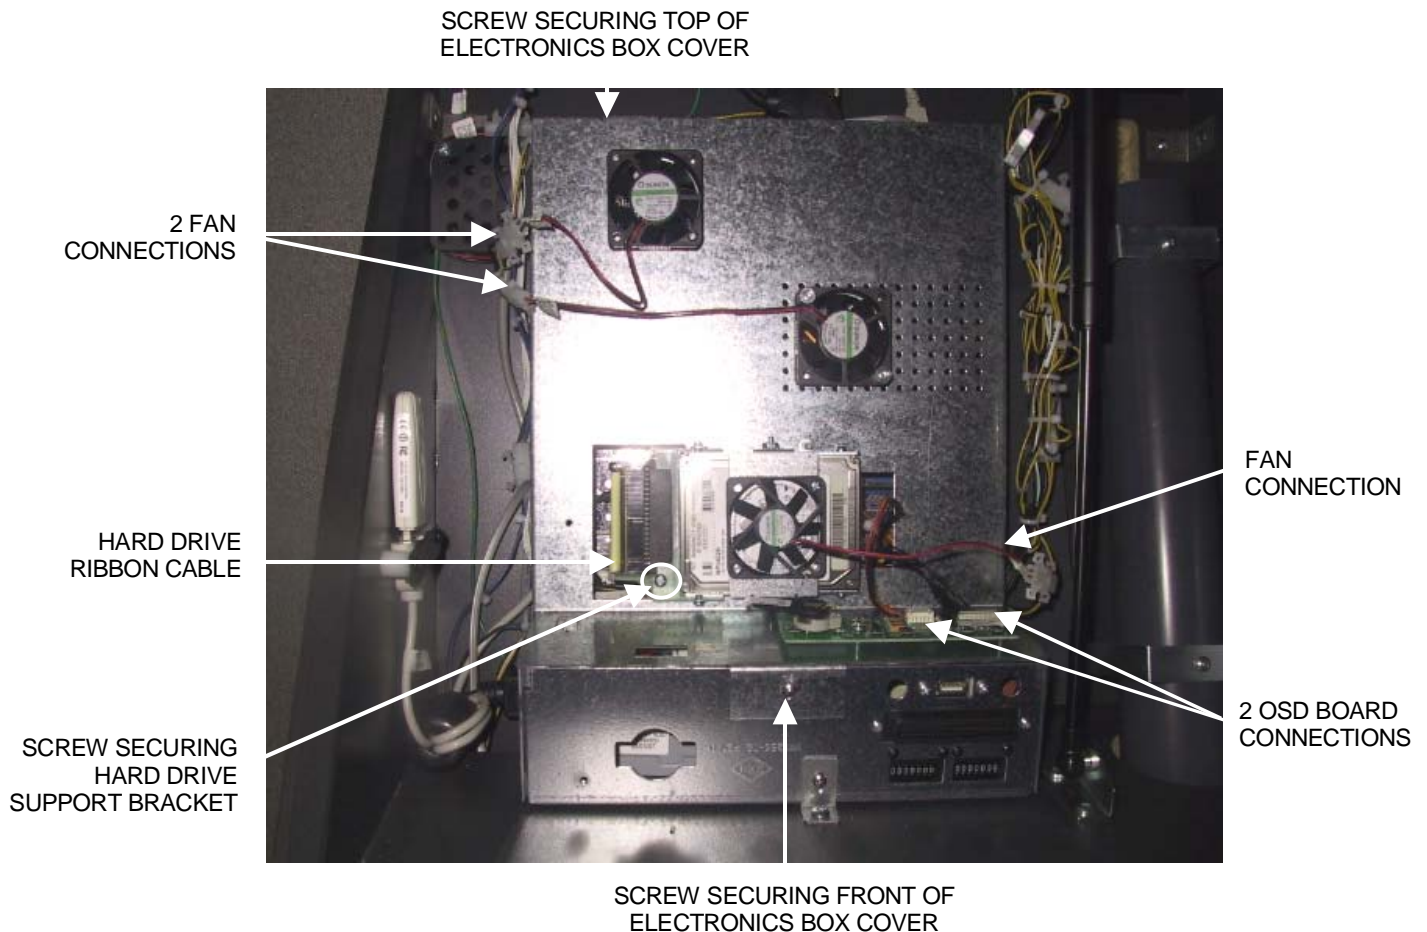

FIGURE 1 - ELECTRONICS BOX WITH COVER
3. Disconnect the 3 fan connections on the face of the electronics box. See Figure 1.
4. Disconnect the 2 OSD board connections. See Figure 1.
5. Loosen the screw securing the hard drive support bracket. See Figure 1.
6. Disconnect the hard drive ribbon cables from the hard drive. See Figure 1.
7. Remove the 2 screws securing the electronics box cover. See Figure 1. Remove the cover.